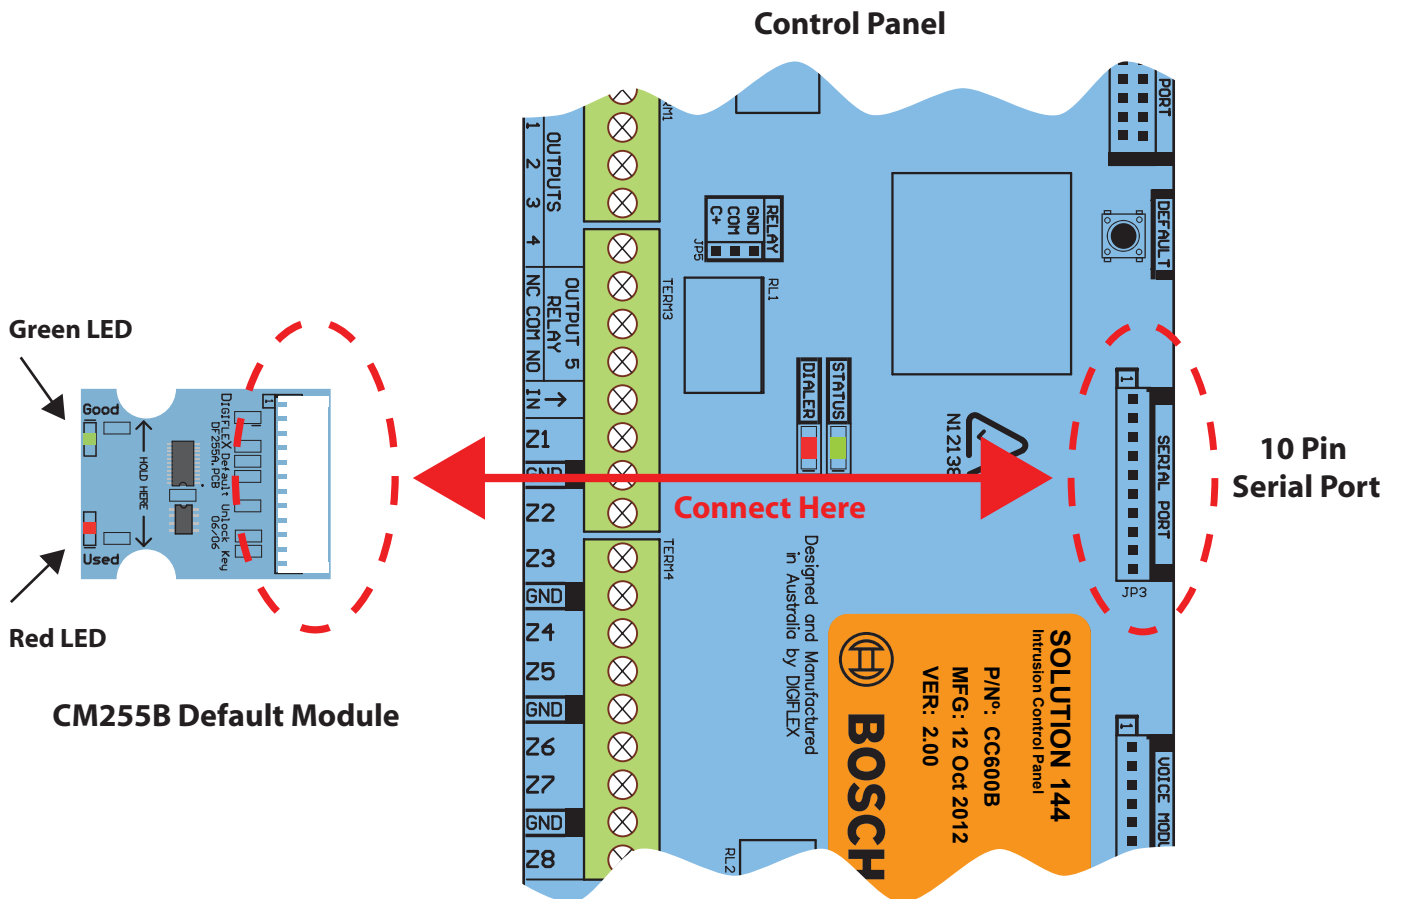

Figure 1: CM255B Connection Diagram
- 2) Plug the CM255B into the connector marked "Serial Port" or "Direct Link Port" paying attention to orientation. See Figure 1.